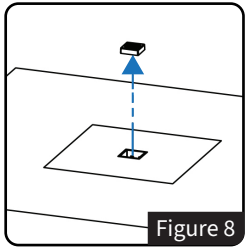
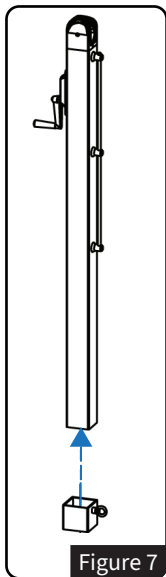
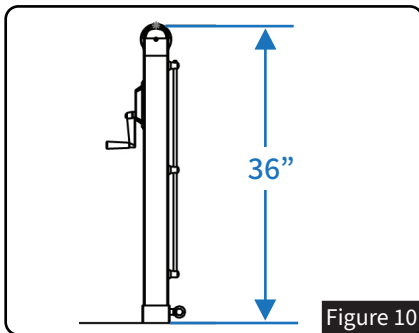

Figure 8
Figure 7
Figure 10
- Ensure eyebolts face inward, on the same side as the lacing rod. See *Figure 7*.
- Remove Anchor Sleeve Caps (B) from Anchor Sleeves (A).
- Repeat for both sides. See *Figures 8 & 9*.
- Loosen eyebolts on the Height Collar (H).
- Adjust post height to 36" using a tape measure and retighten eyebolts to secure. See *Figure 10*.